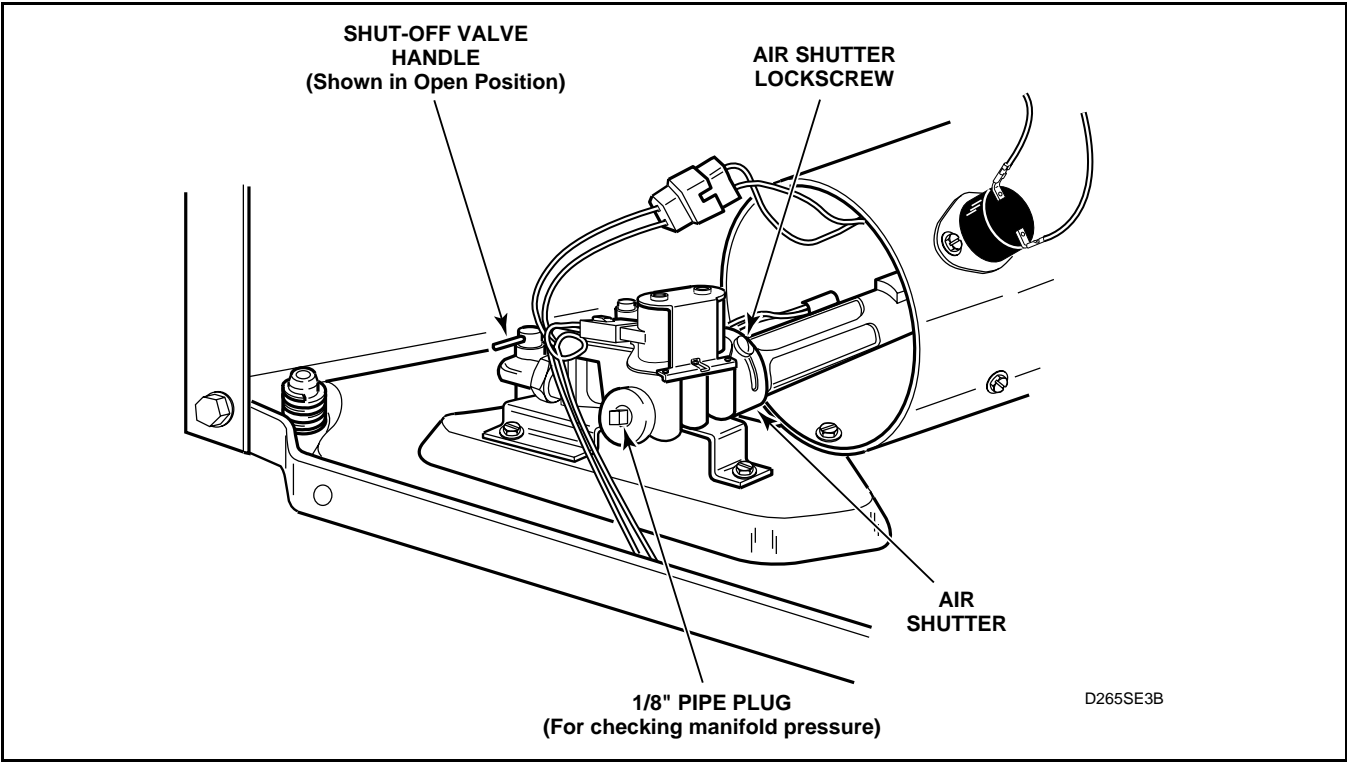

Figure 38
- e. Allow the dryer to operate for approximately five minutes, then loosen the air shutter lock screw. See *Figures 38* or *39*.
- g. After proper flame is obtained, tighten air shutter lock screw firmly. See *Figures 38* or *39*.